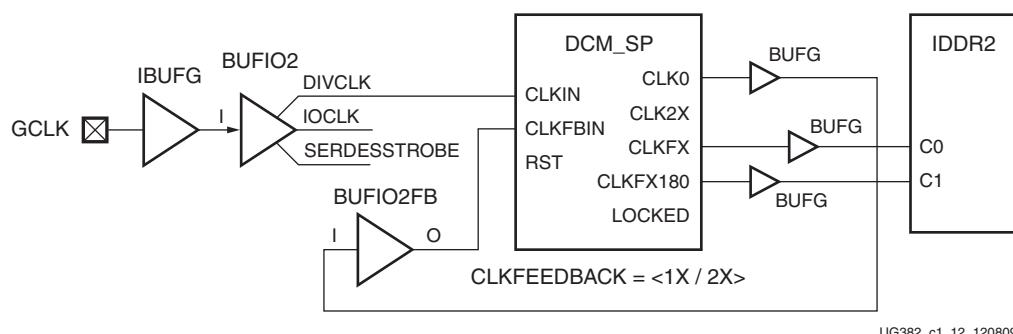

Figure 1-18: Example 5: DCM Deskewed to the Inputs
- For the highest performance, use two DCM outputs with separate BUFGs with 180° phase difference. Works with or without IODELAY2. See Figure 1-18.
In designs where DCM_SP performance is adequate, DCM_SP can be used to drive IOLOGIC (IDDR2) using up to three BUFG clock buffers. To match the input routing delays, either CLK0 or CLK2X must be used to drive the BUFI02FB as shown in Figure 1-18.